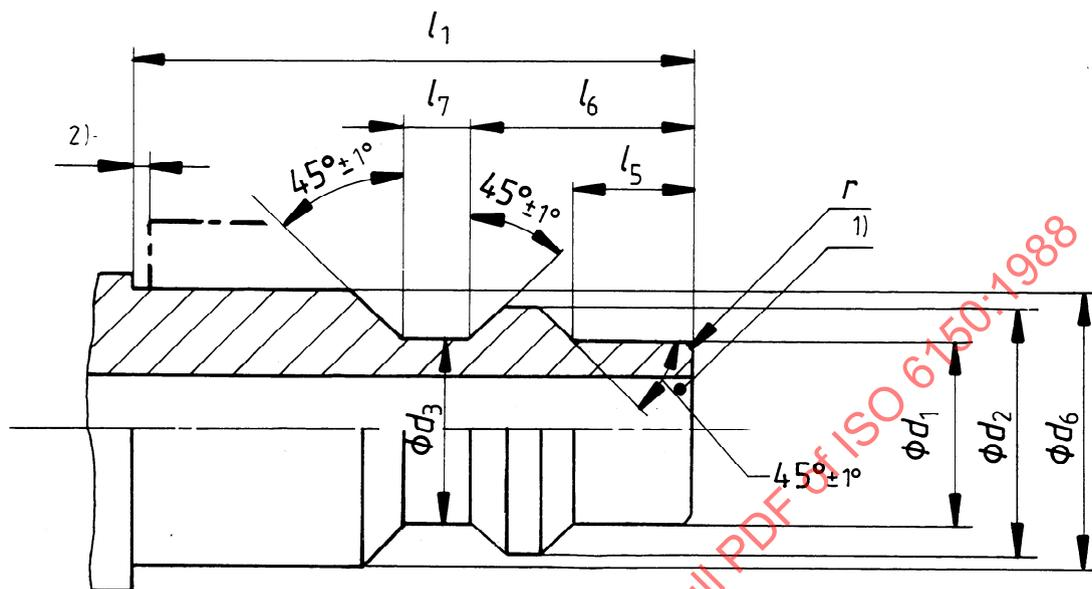

Figure 2 — Plug for 16 bar (1,6 MPa) maximum working pressure (series B)
4.2.2 The dimensions and tolerances for plugs on series B cylindrical quick-action couplings are shown in figure 2 and given in table 2.